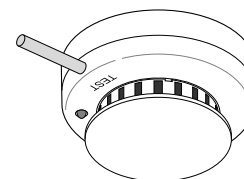

Figure 10. Sensitivity level test
1. Hold the magnet near the integral reed switch of the unit for more than one second (see Figure 10). The LED will flash 1 to 9 times.